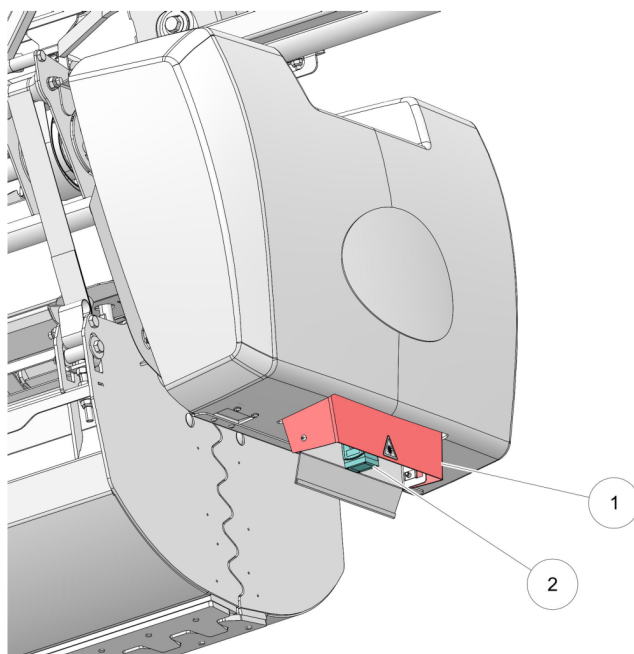

Figure 52. Feed height sensor
- The cover (1) (see figure 52 on page 6-21) and the feed height sensor (2).